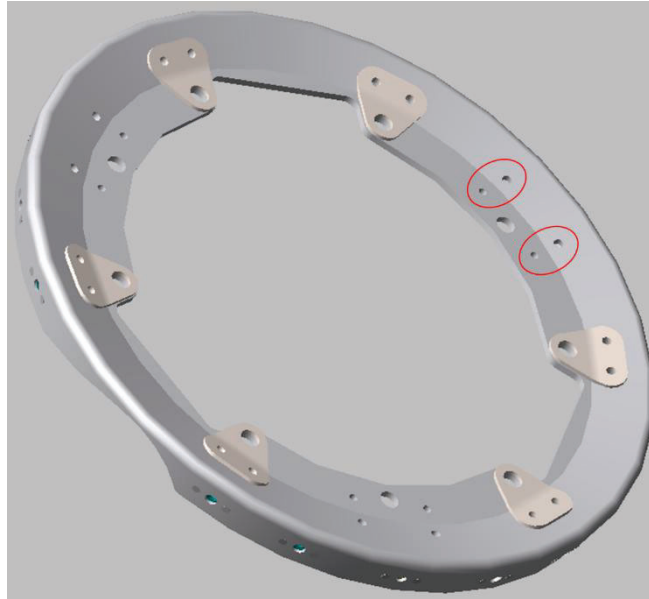

Figure 4: Spinner Bulkhead Diagram
- 6) Install the removed safety wire bolt, washer, and locknut in circled position in Figure 4. Ensure the bolt head is on the forward-facing side of the spinner bulkhead.